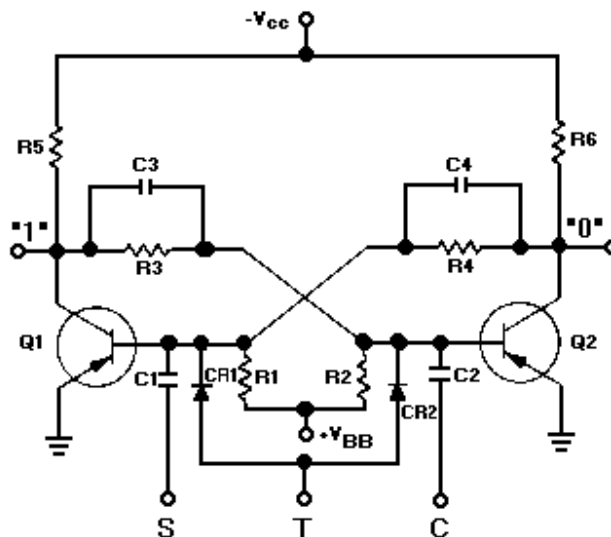
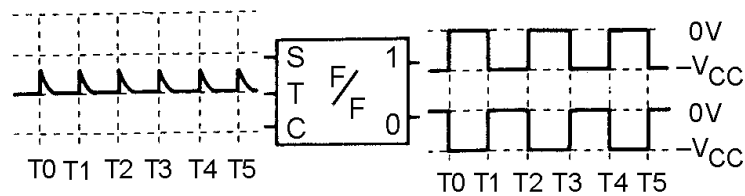
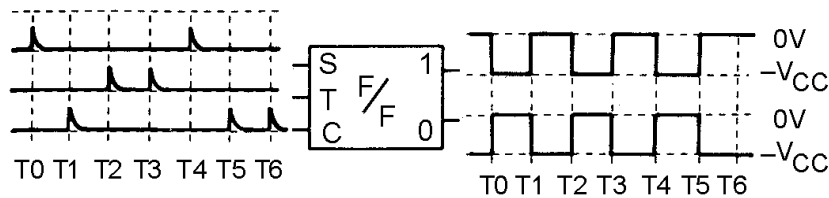

Figure 3-28.—Flip-flop with three inputs.
Figure 3-29.—Block diagram of a flip-flop with a toggle input.
Figure 3-30.—Flip-flop with three inputs (block diagram).
Some flip-flops use a third input lead, as shown in figure 3-28. This third input lead is called a TOGGLE (T) input. Every time a pulse is applied to the T input, the flip-flop will change states from whatever its state was previously. The two diodes (CR1, CR2) form a STEERING NETWORK. This steering network directs a positive input pulse to the saturated transistor, causing it to cut off. Negative pulses are blocked by the diodes. Note that if npn transistors were used, the diodes would have to be reversed and the TOGGLE signal would have to be negative. For example, assume that Q1 is saturated, Q2 is cut off, and a positive pulse is applied the at T input. The input pulse will be directed to both transistors. The positive pulse will not affect Q2 since it is already in cutoff. Q1 however, which is conducting, will cut off and will cause Q2 to become saturated. The transistors have reversed states. A block diagram which represents a multivibrator and its outputs with only a TOGGLE input signal is shown in figure 3-29. Studying this figure should help you understand how this flip-flop works. Each TOGGLE input causes the output to change states. Figure 3-30 shows what happens when triggers are applied to all three inputs of the flip-flop shown in figure 3-28. Assume that the flip-flop in figure 3-30 is in the CLEAR state ("1" output is 0 volts, "0" output is high) prior to T0. At T0 a trigger is applied to the set input and the flip-flop changes states. Next, the CLEAR input is triggered and the flip-flop returns to the CLEAR state at T1. A TOGGLE at T2 causes the flip-flop to change state, so it is once again SET. Another TOGGLE changes the flip-flop to the CLEAR state at T3 (notice that TOGGLE triggers flip the multivibrator regardless of its previous state). Now, a SET input trigger at T4 sets the flip-flop. The CLEAR input pulse at T5 causes the circuit to CLEAR, and the CLEAR input at T6 has no effect on the flip-flop, for it is already in the CLEAR state.